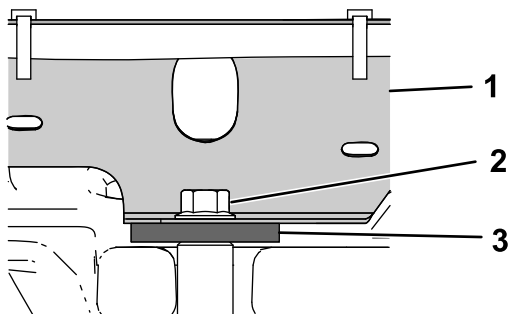

Figure 14
5. Secure the rear of the seat brackets using 2 bolts (3/8 x 1 inch) as shown in Figure 14.